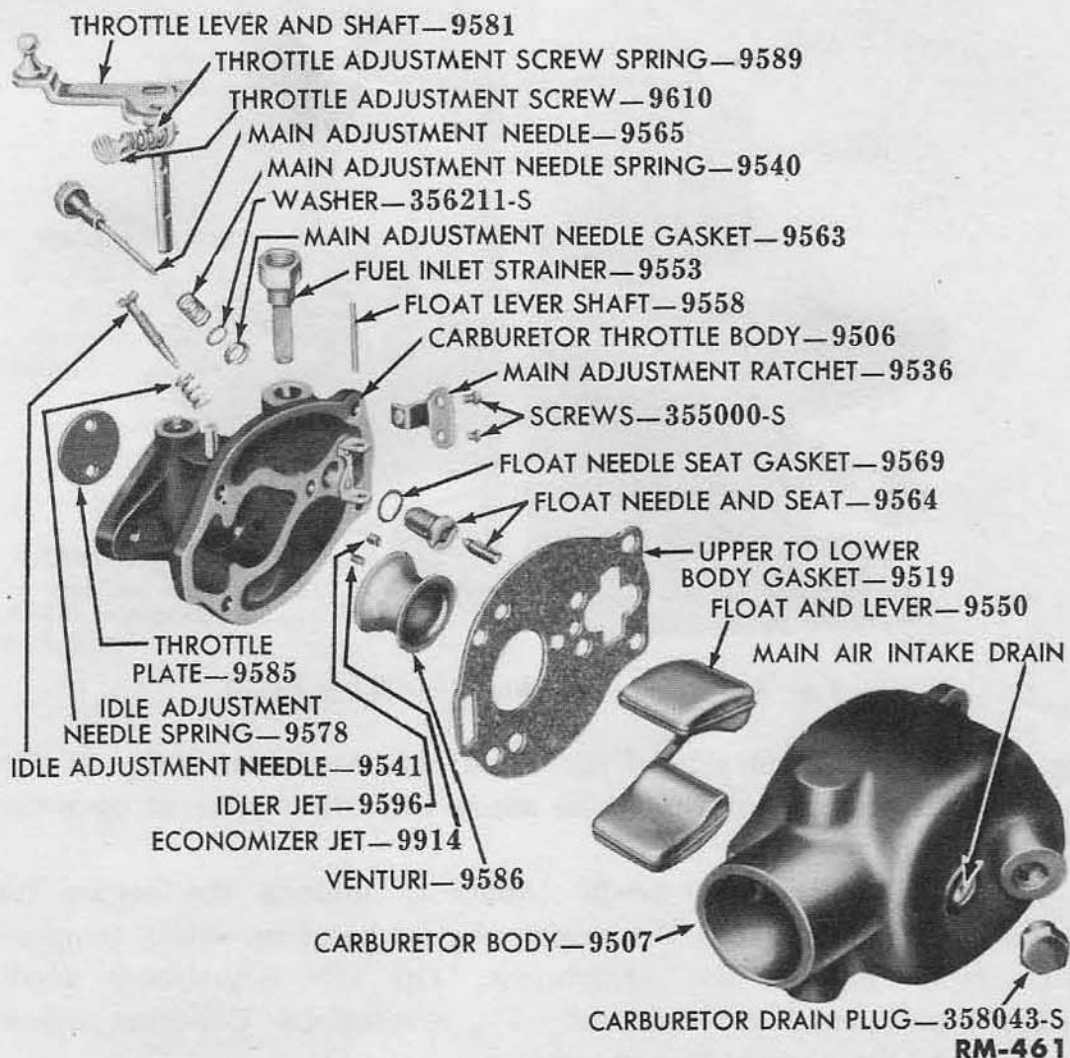

Fig. 46—Carburetor, Disassembled
b. Cleaning. Remove the main adjustment needle (fig. 48). Remove the four screws that secure the carburetor body to the carburetor throttle body (fig. 46). Thoroughly clean all passages in the carburetor. Be sure that the drain screen washer remains within the main air intake drain.